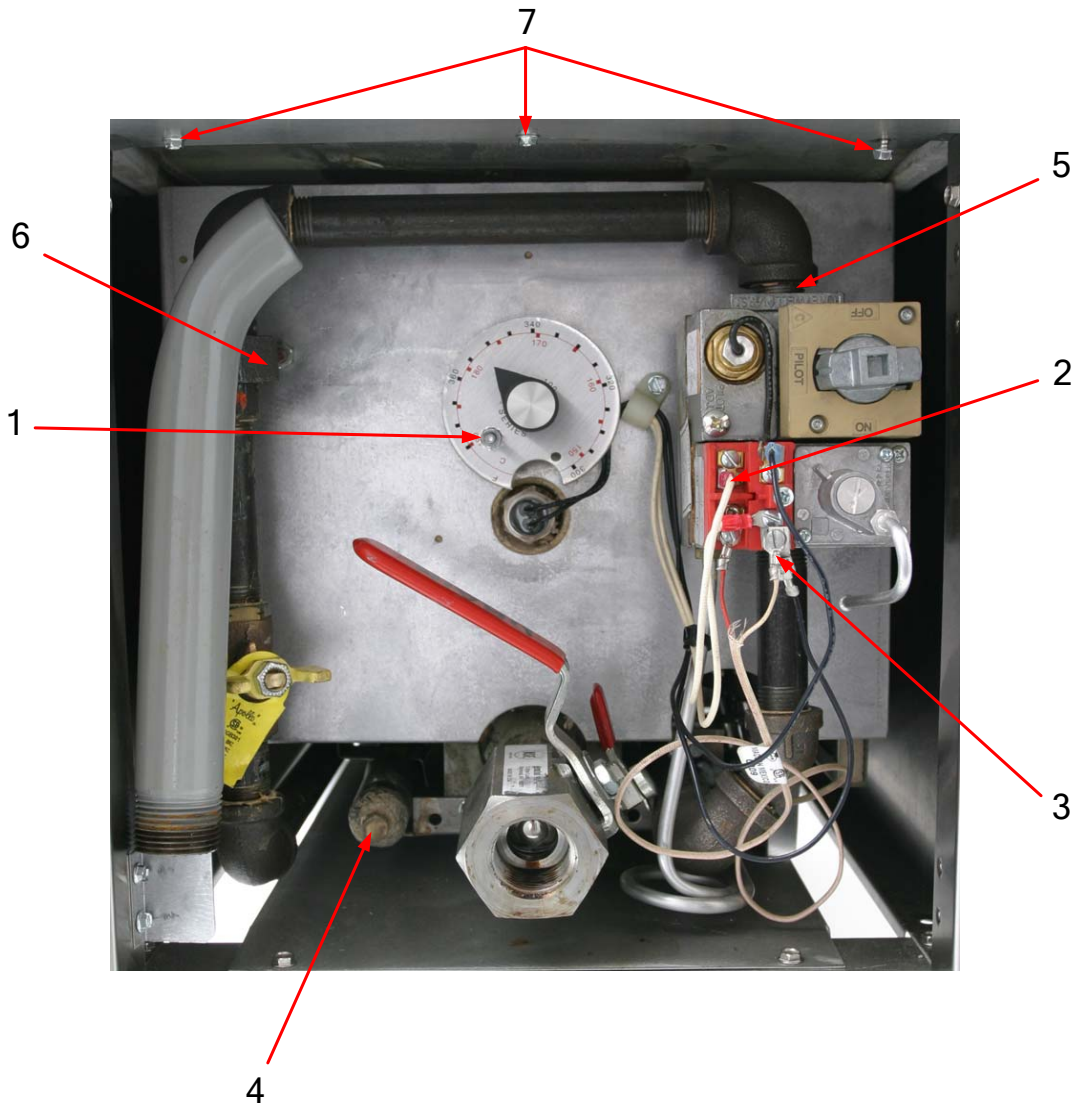

Figure 1: Cabinet Interior
2. Use an allen wrench to loosen set screw at the side of the thermostat knob. Remove the thermostat knob. See Figure 1, Item 1.
4. Disconnect the thermostat wires from the gas valve. See Figure 1, Item 2.
1. Disconnect the pilot generator wires from the top of the gas valve. See Figure 1, Item 3.
2. Remove the pressure tap plug from the end of the burner manifold. See Figure 1, Item 4.
3. Remove the pilot gas line and fitting from the valve. See Figure 1, Item 5.
4. Loosen the pipe union to the left of the valve. See Figure 1, Item 6.